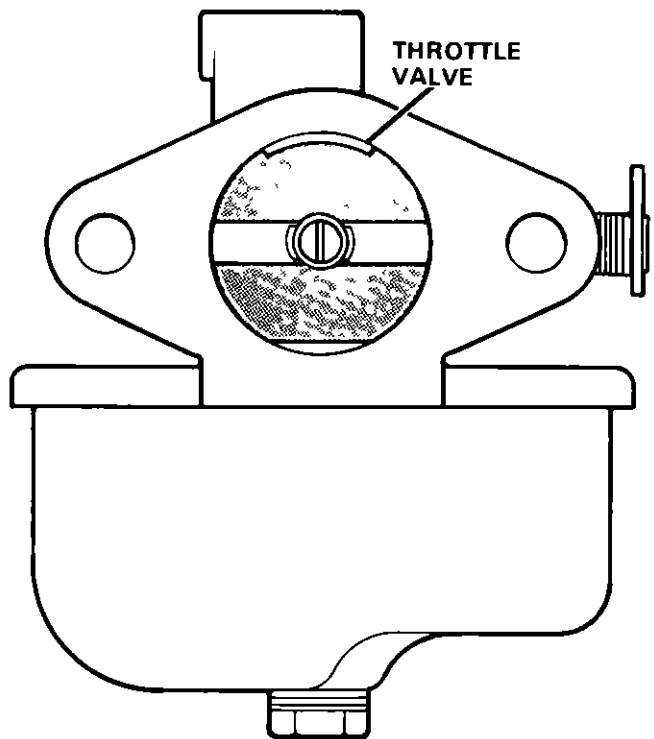

Figure 24. Position of Throttle Valve.
- A Note position of throttle valve. Figure 24.